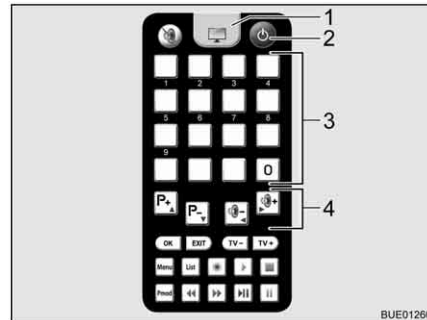

Fig. 31 Remote control
- Press the key "⏻" (Fig. 31,2) on the remote control. The satellite antenna repositions itself out of the park position and into search mode. When the unit finds the satellite, you will hear a signal tone.
- Use the memory buttons (Fig. 31,3) or the function buttons (Fig. 31,4) to set the required transmitter.